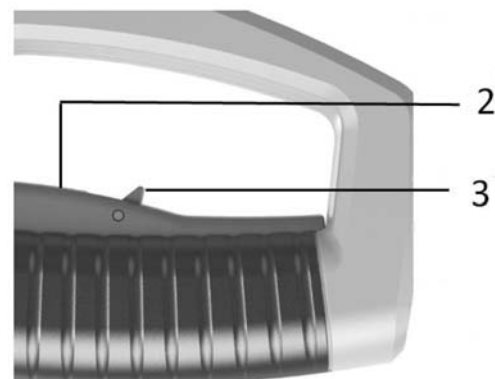

Fig. 14: Turn the saw on / off
Step 3: With the other hand grasp the saw head grab handle and with the thumb pull the release lever (3, Fig. 14) for the saw button to the left.
Step 4: Press and hold the ON/OFF switch (2, Fig.14).
Step 6: When the cut is complete, release the on/off switch (2, Fig.14) and lift the saw head up until the saw head lock engages again.